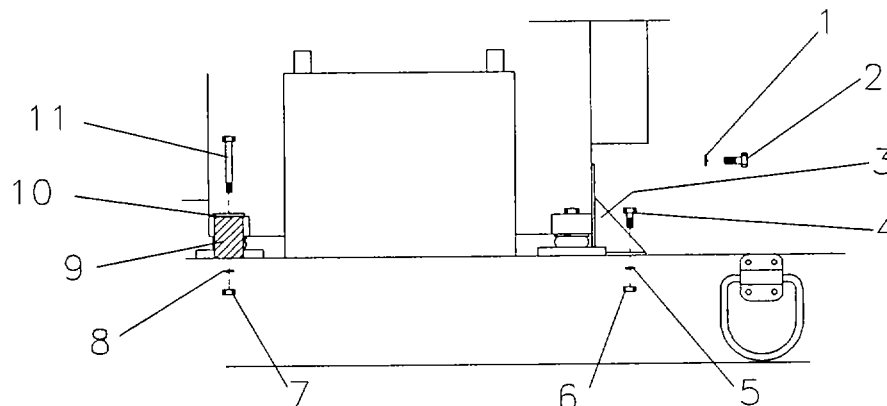

Figure 4-4. Engine Retainers..
b. Remove the engine retaining wooden spacers (9, fig 4-4). A steel bracket (3) is bolted to the front of the engine and to the base to retain the engine during shipment. Remove the two lockwashers (1) and screws (2) holding the steel bracket (2) to the engine and the two bolts (4), lockwashers (5) and nuts (6) holding the steel bracket (3) to the base. Remove the steel bracket (3). A steel strap (10) and wooden spacer (9) are used to retain each of the two rear shock mounts. Remove the two bolts (11), lockwashers (8) and nuts (7) holding the wooden spacers (9) and remove the wooden spacers (9). The steel straps (10) may be left in position on the rear shock mounts. Save the wooden spacers (9), steel bracket (3), bolts (11 and 4), nuts (7), and screws (2) for use in preparing the hydraulic power supply for reshipment.